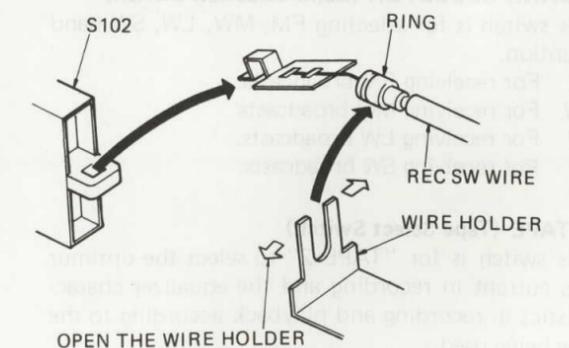

Fig. 5
- 4) When removing the REC SW wire running from the TAPE 2 to the REC switch (S102), remove the wire from the S102 lever after first taking hold of the S102 wire holder and removing the ring as shown in Fig. 5.